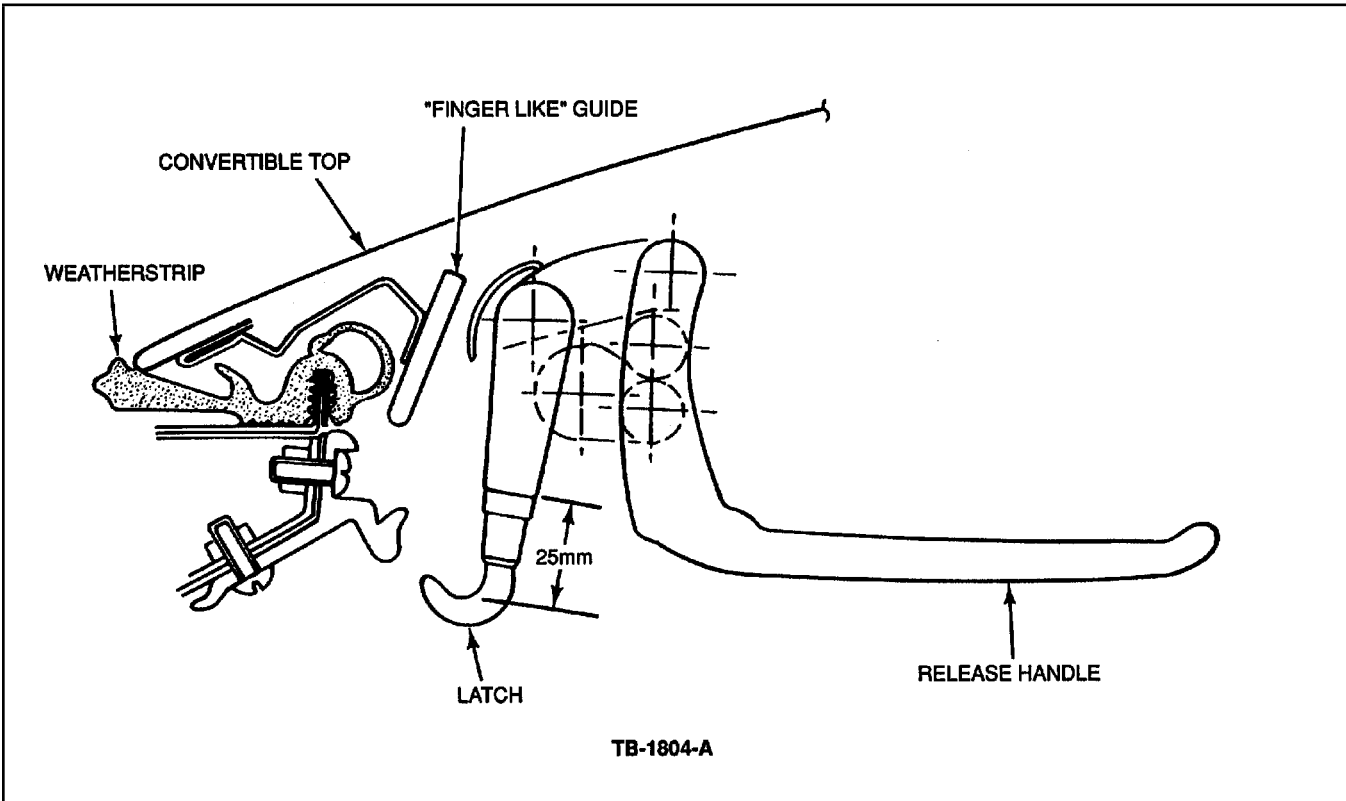

Figure 3 - Article 90-21-3
1. Measure and, if necessary, adjust the front latch hook length to 25mm as shown in Figure 3.